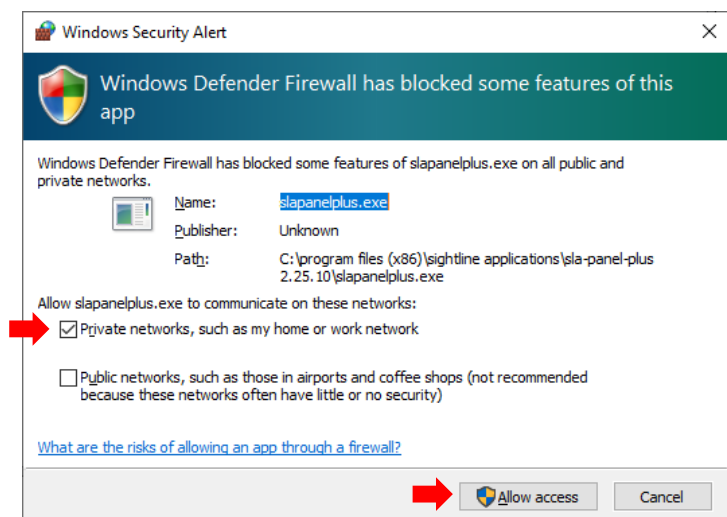

Figure 5: Windows Security Alert Prompt
3. The first time that Panel Plus is launched, a Windows Security Alert prompt should appear. Select *Allow Access* to create a firewall exception (Figure 5).